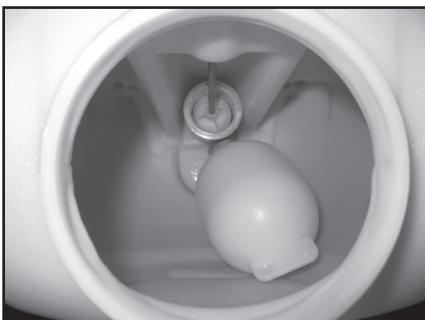

Figure 19
20. Reinstall pressure chamber as outlined in the *Pressure Chamber Maintenance* section. See **(Figure 19)**.